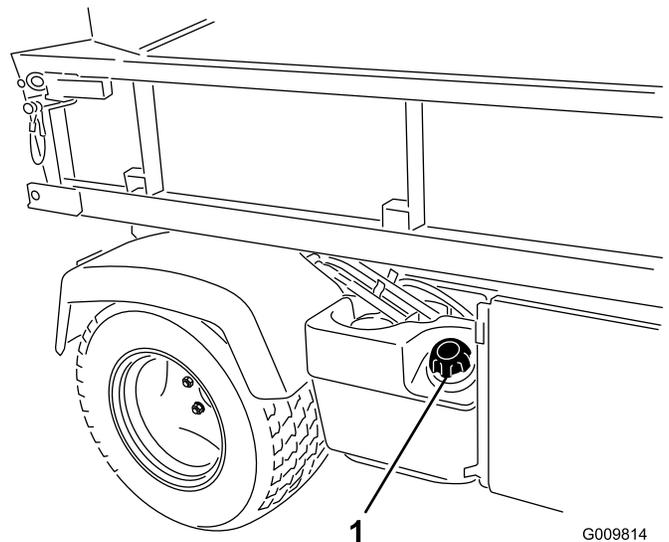

Figure 28
1. Clean the area around the fuel-tank cap (Figure 28).
2. Remove the fuel-tank cap (Figure 28).